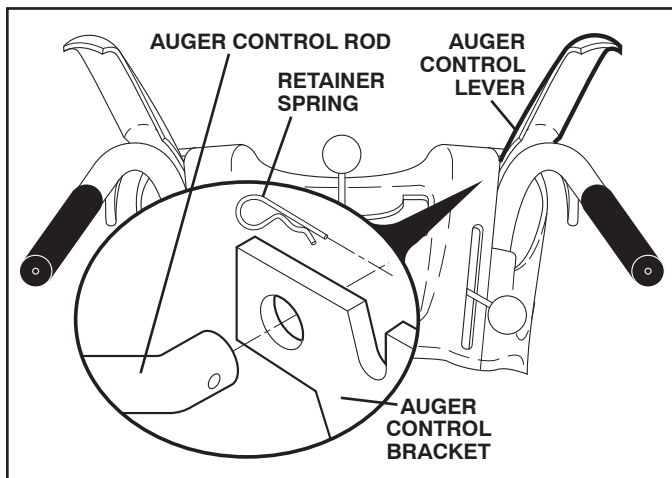

FIG. 6
3. With top end of rod positioned under right side of control panel, push down on rod and insert end of rod into hole in auger control bracket. Secure with retainer spring. (See Fig. 6)